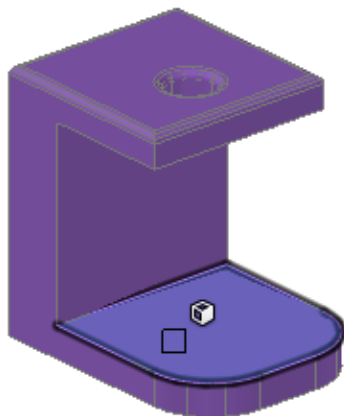

Figure Step 3A
Step 3 Using the model on the left, enter the OFFSETEDGE command, as shown below, to create a closed polyline 0.25 inches from the edge. (Figure Step 3A and 3B)